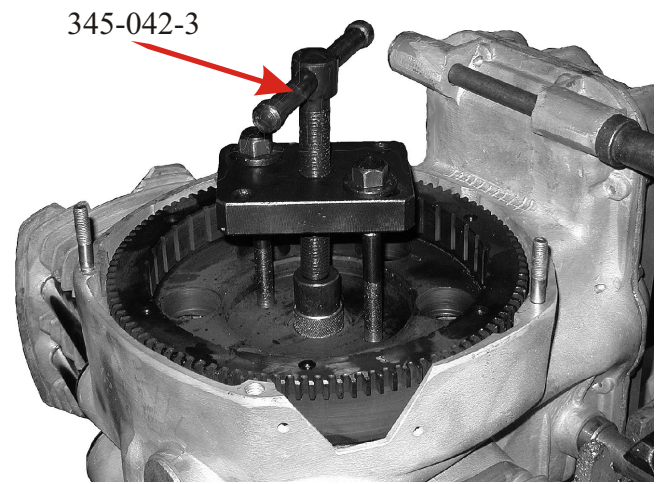

Fig. 13
- by turning in the central screw of the remover, remove the flywheel from the crankshaft tapered end (Fig.13);